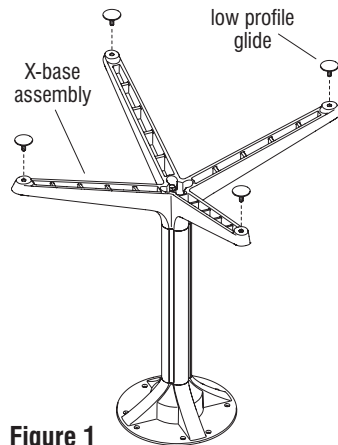

Figure 1
2. Carefully place the X-base assembly upside down on a soft, protective surface (Figure 1).
3. Thread the stem of each glide into a threaded insert at the underside of each foot by hand (Figure 1).